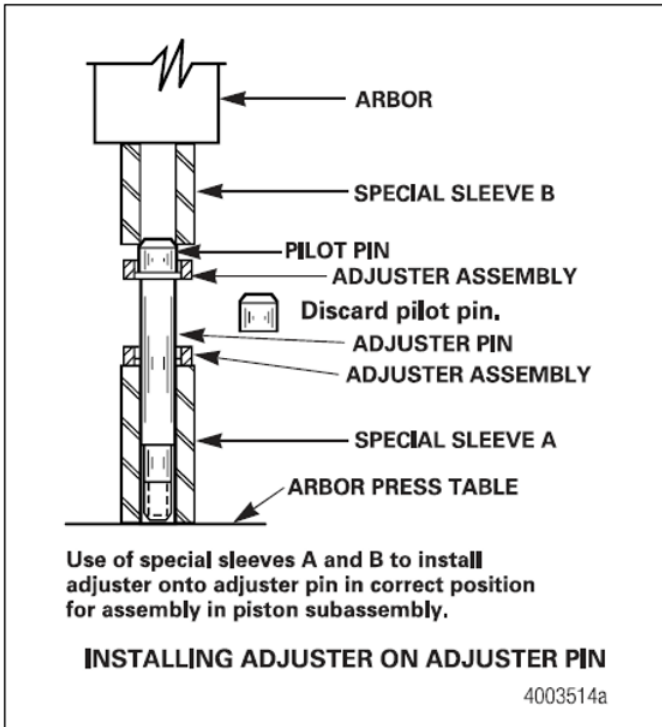

Figure 4.6
5. If required, install the adjuster on the adjuster pin as follows. Figure 4.6.
- B. Press the adjuster off the expendable pilot pin, onto the adjuster pin. Figure 4.6.